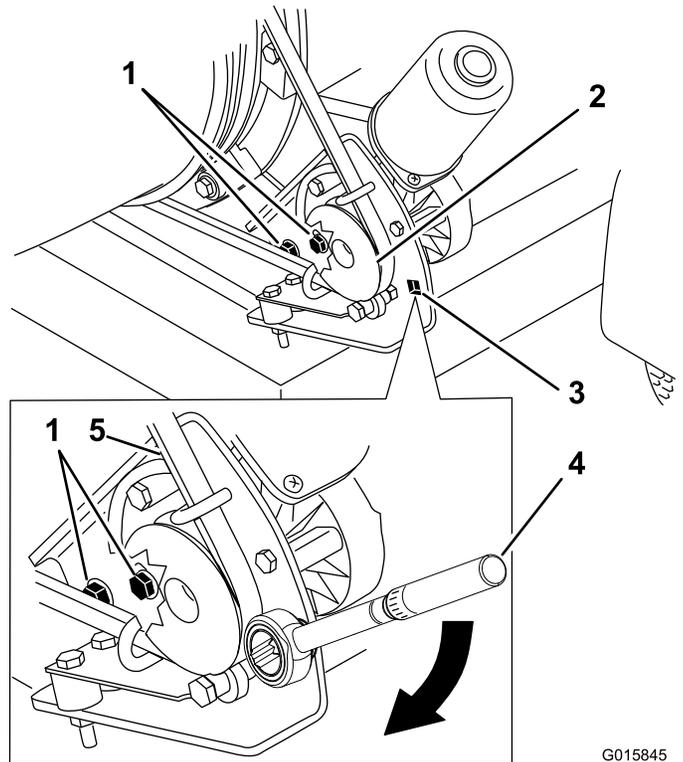

Figure 31
1. Loosen the bolts securing the pulley mounting bracket to the blower frame (Figure 31).
2. Position a torque wrench into the pulley mounting bracket (Figure 31).
3. Pivot the pulley mounting bracket away from the nozzle until the torque wrench reads 200 to 230 in-lb (22.6 to 26.0 N-m) (Figure 31).